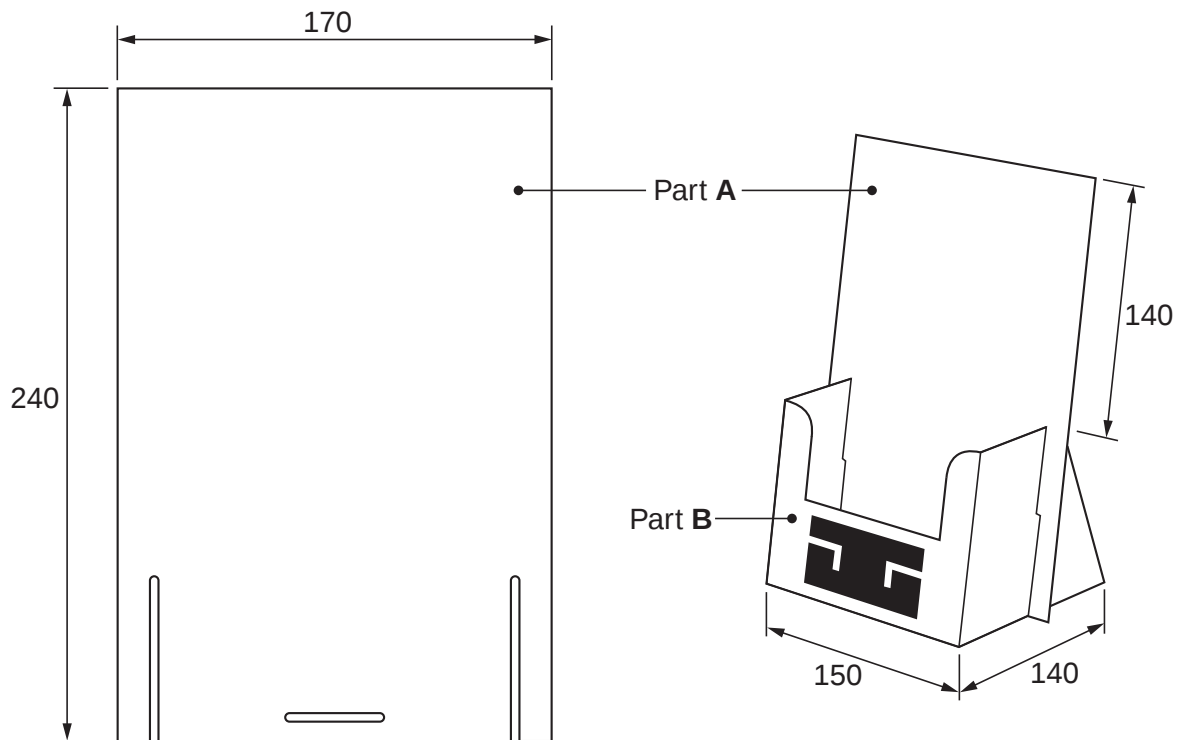

Fig. 3
- 3 Fig. 3 shows a leaflet holder, which is to be made in a school workshop.